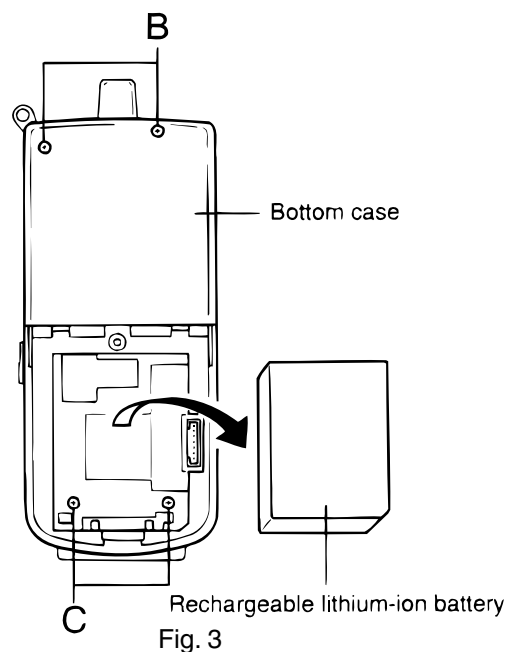

Fig. 3
2. Remove the rechargeable Lithium-ion battery from the unit (Refer to Fig. 3)
3. Remove the two screws at both B and C fixing the bottom case, then remove the bottom case from unit. (Refer to Fig. 3)